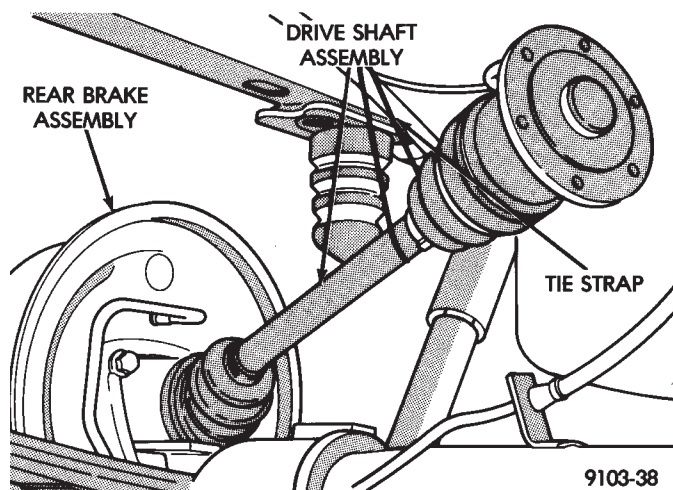

Fig. 2 Support Half Shafts
- (3) Support inner side of half shaft with mechanics wire or equivalent (Fig. 2). Do not allow half shafts to hang freely.